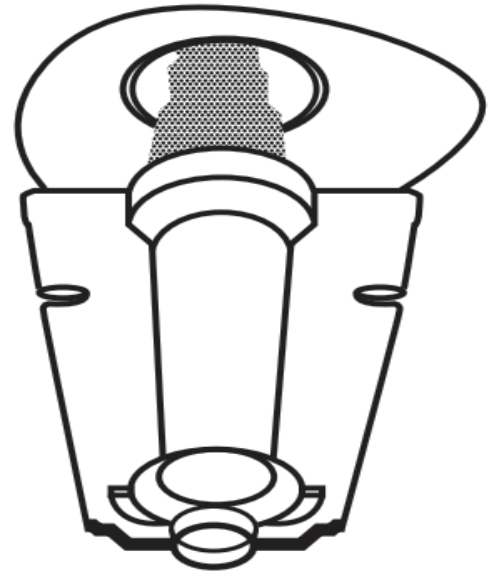

Fig. 1 Burner Flame
- The burner flames are in good adjustment (by comparison with pictorial sketches of the main burner flame (see Fig 1).